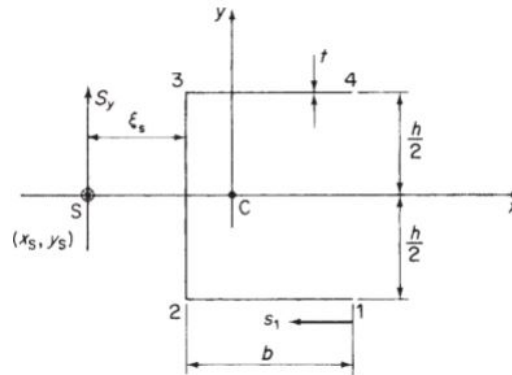

Figure 2
- (b) Calculate the position of the shear centre of the thin-walled channel section shown in Figure 2. The thickness t of the walls is constant.